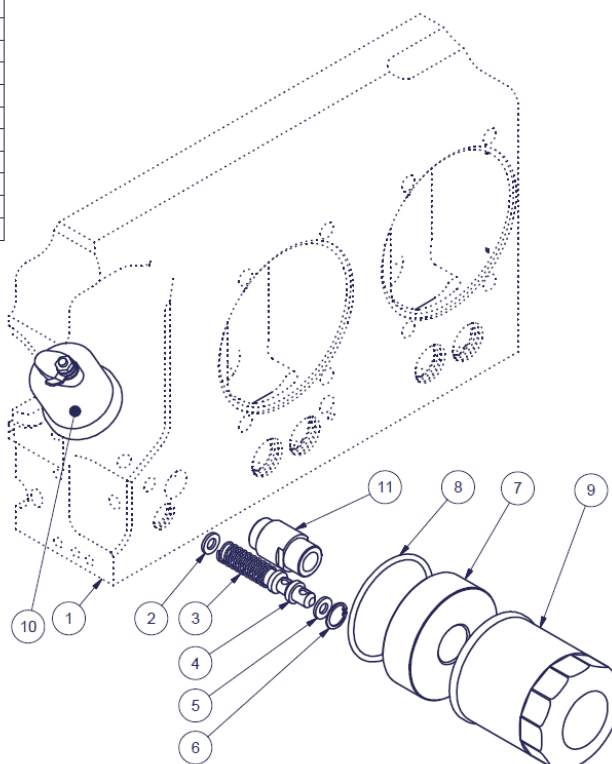

Figure 11 – Oil Pressure Relief Valve Assembly
- If the pressure of the engine needs to be increased another washer can be added behind the spring (item 2 in Figure 11 below). If the pressure needs to be reduced then a washer can be removed.